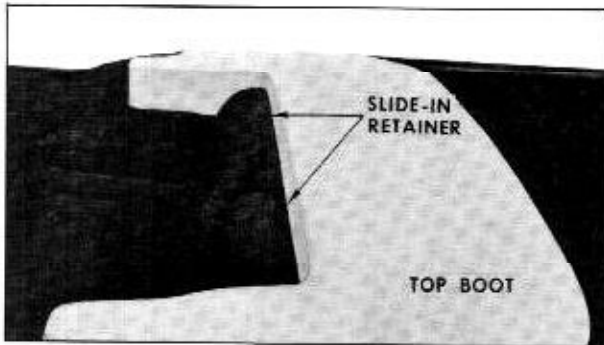

Fig. 17-100 Top Boot Assembly
The top boot is attached to the body with concealed "floating-type" snap fasteners along the side and rear edges and a "slide-in" retainer along the front edge. (Fig. 17-100) When the folding top is raised, either of the following two methods may be used for storing the boot.
3. Engage remaining boot fasteners to studs on molding and rear quarter trim. (Fig. 17-100)